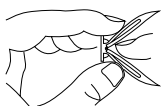

Figure 20 - Folding Anchor
2. Fold floor anchor as shown in Figure 20.